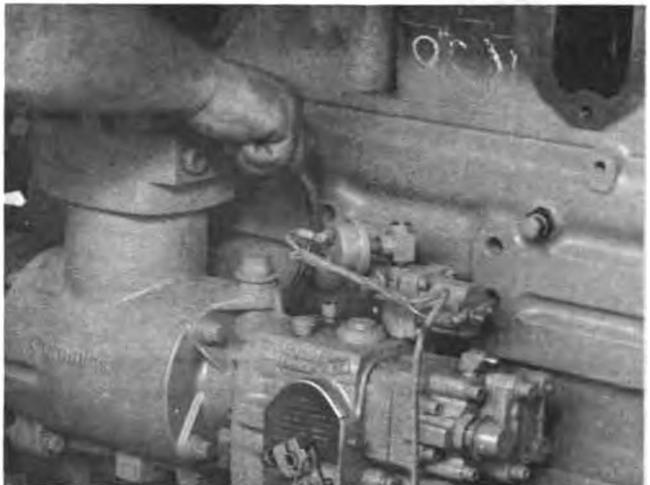

Fig. 0-24. Remove The Capscrews That Hold The Fuel Pump.
- 1. Remove the capscrews that hold the fuel pump to the air compressor, Fig. 0-24. Remove the support brackets.**